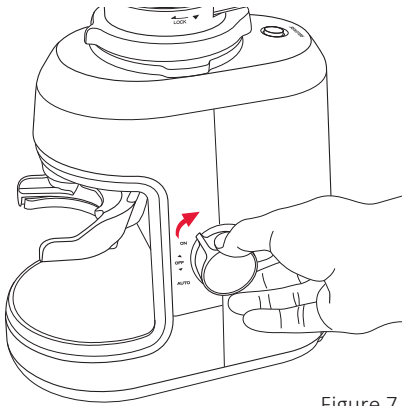

Figure 7
11. To continuously grind coffee, turn the dial to the 'On' position, see figure 7.